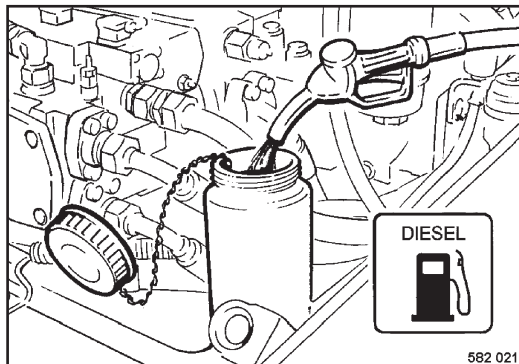

Fig. 97
- Open the fuel tank cover (Fig. 97).